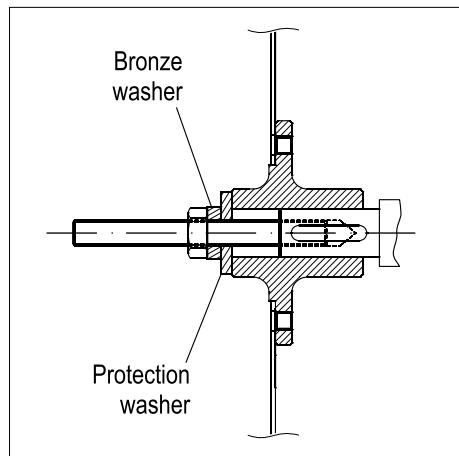

FIG. 17 (Assembling)
5.4.2- Assembling and disassembling the “simple suction” and “axial” impeller (FIG. 17÷FIG. 20)
- 2) Insert the screw with a protection washer and screw the nut on the screw in order to push the impeller against the shoulder and fasten it (s. FIG. 17).